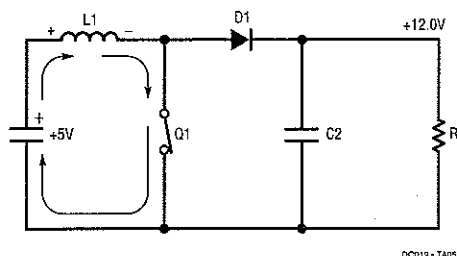

Figure 2B. Switch Closed
1. The switch, Q1, turns on (Figure 2B) allowing the battery voltage to be impressed across the inductor L1. The inductor current builds (energy storage) until the switch turns off.